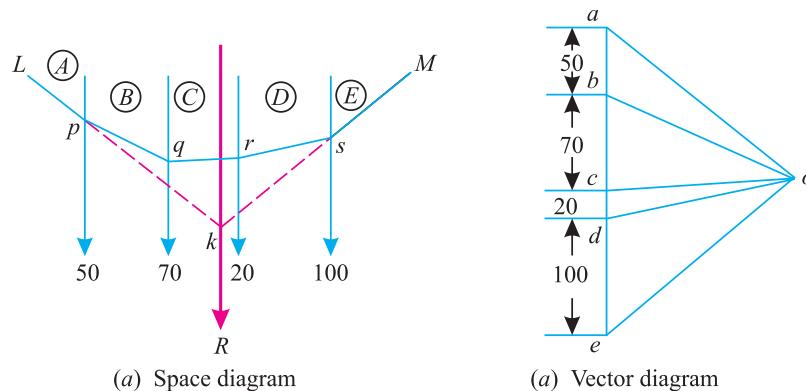

**Fig. 4.7.**
**Example 4.5.** Find graphically the resultant of the forces shown in Fig. 4.7. The distances between the forces are in mm.